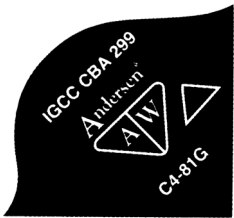

Fig 8. High-altitude shown by triangle.
- 2004–Present* In the 3rd quarter 2004, logo artwork was changed. Names of glass types on logo changed (for example, High-Performance is now HP Low-E) (figure 8).
Cardinal supplied high altitude glass through 1987. It is indicated by a triangle next to the AW logo (figure 8).